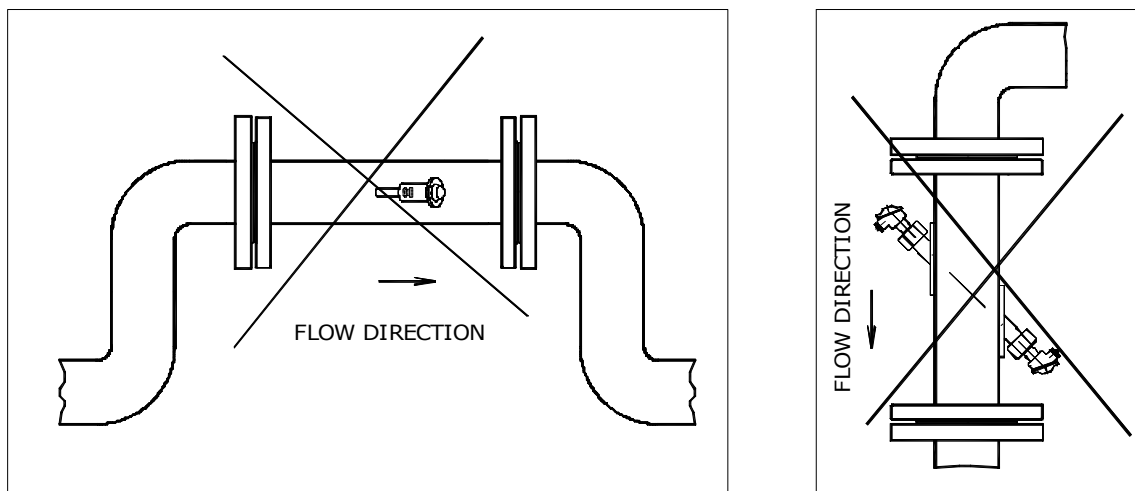

Fig. 11 - Examples of incorrect sensor placement
**To ensure a correct measurement in all circumstances, the flow cross-section of the sensor must be fully filled with the measured liquid.** Avoid placing the sensor at the top or in vertical sections of piping with a downward flow direction, in particular where the piping leads directly into open tanks. (see Fig. 11).